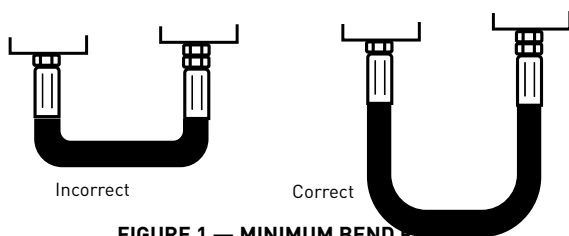

FIGURE 1 — MINIMUM BEND RADIUS
5.21 Minimum Bend Radius – The minimum bend radius is defined in SAE J343 and is specified in other SAE standards and hose manufacturer's product literature. Routing at less than minimum bend radius may reduce hose life. Sharp bending at the hose/fitting juncture may result in leaking, hose rupturing, or the hose assembly blowing apart (see 4.2 and Figure 1).